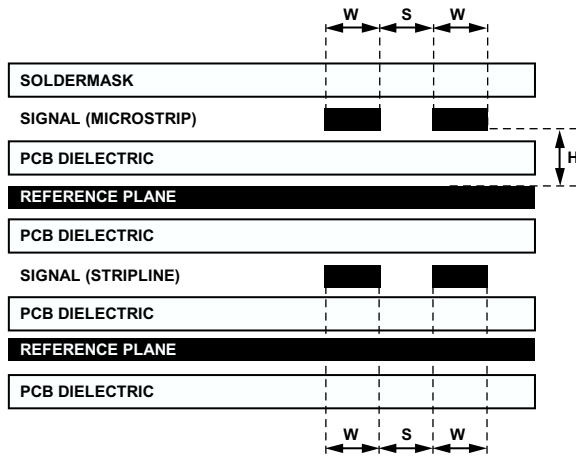

Figure 48. Example of a PCB Cross-Section
The high speed differential inputs and outputs should be routed with 100  $\Omega$  controlled impedance differential transmission lines. The transmission lines, either microstrip or stripline, should be referenced to a solid low impedance reference plane. An example of a PCB cross-section is shown in Figure 48. The trace width (W), differential spacing (S), height above reference plane (H), and dielectric constant of the PCB material determine the characteristic impedance. Adjacent channels should be kept apart by a distance greater than 3 W to minimize crosstalk.